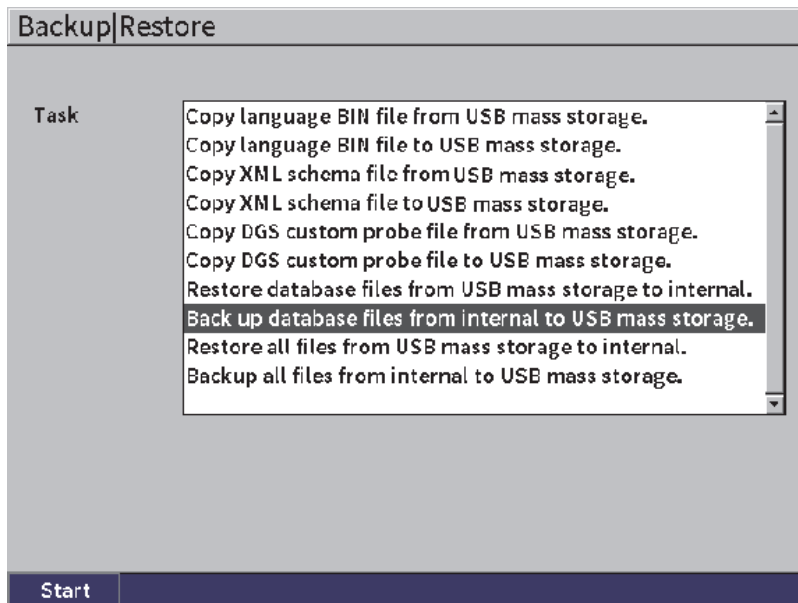

Figure 9-24 Backup|Restore setup page
1. Open the **Backup|Restore** setup page (see Figure 9-24 on page 148).